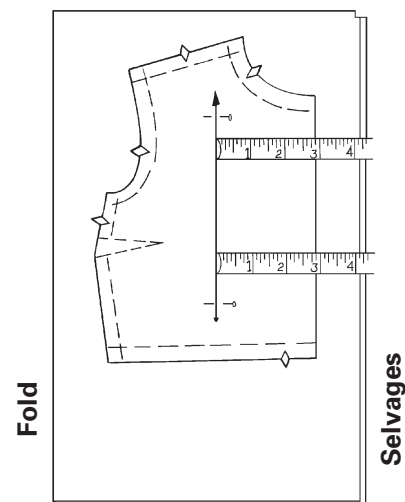

Fig. 6-5
7. Pin the remaining pattern pieces so the grainline symbol is straight on the fabric grain. Pin one end of the grainline symbol to the fabric. Measure the distance from that end of the arrow to the selvage. Then measure from the other end of the arrow to the selvage. If the measurements are not the same, move the pattern until they are. Smooth the pattern and pin. (Fig. 6-5)